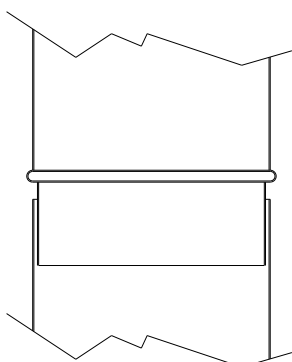
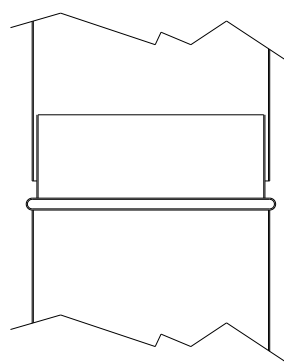

Figure 1: correct installation running on house interior. Liquids produced by gas condensation do not flow to the exterior through the pipe joints
Figure 2: correct installation for parts running on house exterior. Rainwater does not reach the inside of the pipe through the pipe joints
- When the pipes run through the inside of the home or a brick chimney, they should be mounted as shown in Figure 1 to prevent liquids produced by the condensation of the gases flowing through the joints and out of the pipes. If a pipe section runs outside the building it must be mounted in the direction shown in Figure 2 to prevent rainwater draining down the outside part of the pipe and entering into the pipe interior through the joints.